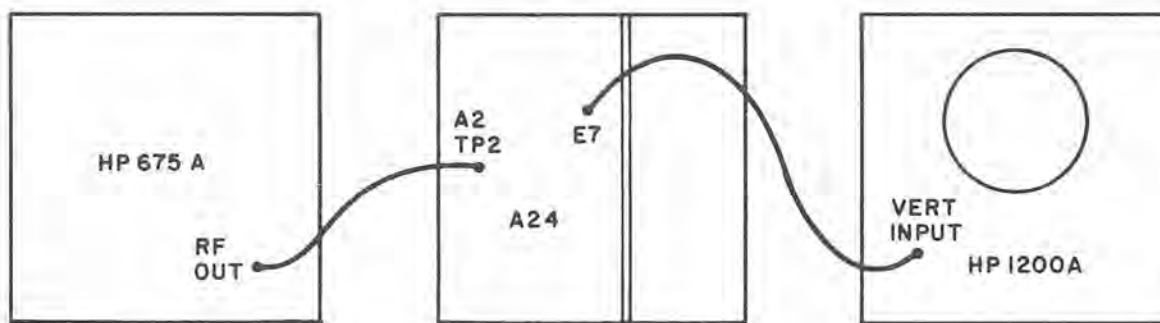

Figure 5-12. A24 Spectrum Monitor 13 MHz
(1) Apply +20 Vdc to C1 on rear panel.
(2) Connect test equipment as shown on figure 5-12.
(3) Set oscilloscope sensitivity to 50 mV/cm.
(4) Set sweep generator frequency to 13 MHz, sweep width to 300 kHz, and sweep rate to 5 sweeps/second.
(5) Adjust in turn L4, L5, and L6 for maximum output as seen on oscilloscope. The sensitivity should be sufficient to produce a 0.2V p-p trace with generator output at about -62 dBm.
(6) Disconnect all test equipment.